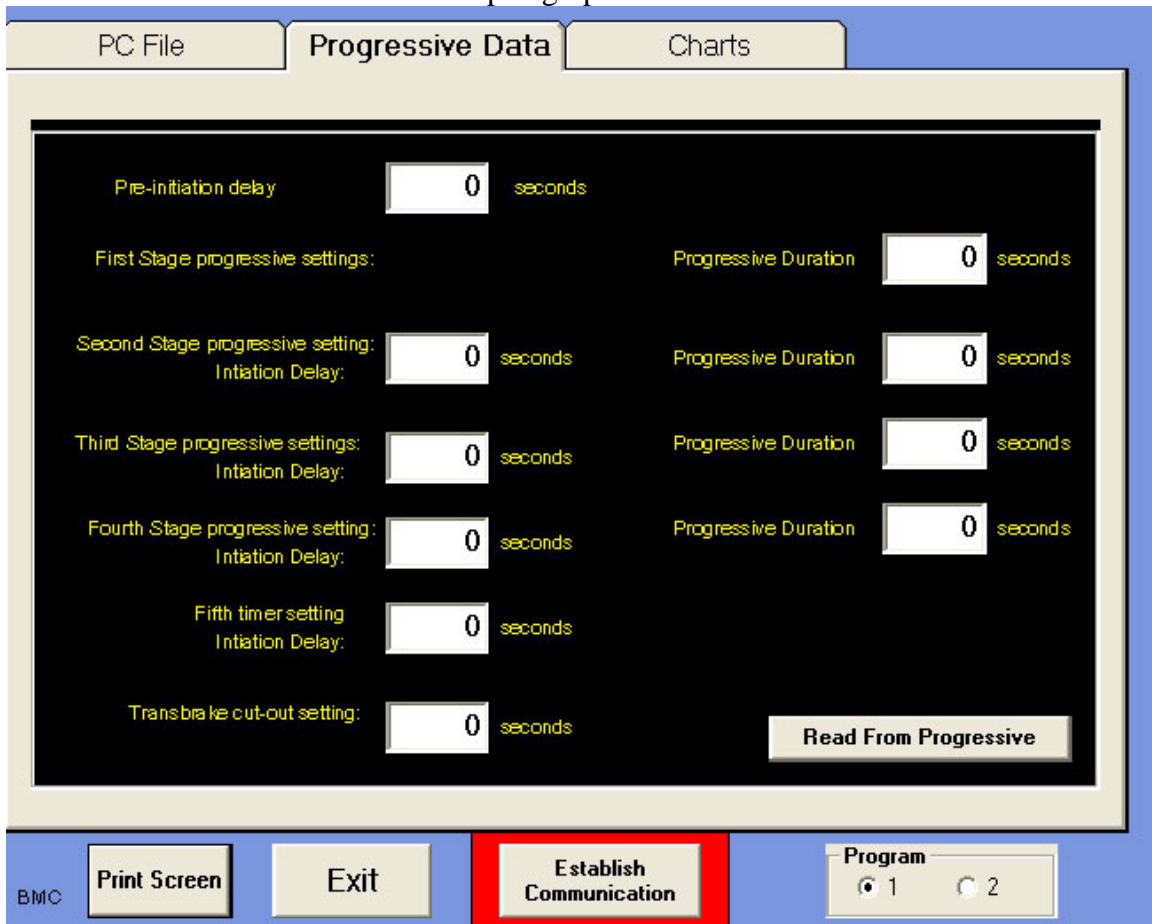

Figure 4
10. Select the "Progressive Data" as shown in *Figure 4*. This allows you to see the timer values that are loaded into the Progressive Timer/Controller. Depending on which program button (1 or 2) is selected in the lower right hand corner, you can see the timer values for that program (1 or 2) by selecting the "Read From Progressive" Button. You can edit and save the timer values to PC by selecting File, Save as, then type in a new name then hit the save button.